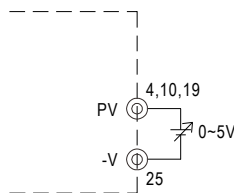

Fig. 3.1 Add on 0~5V external voltage
(1) Connecting an external DC source between PV(4,10,19) and -V(25) on CN50 that is shown in Fig. 3.1.